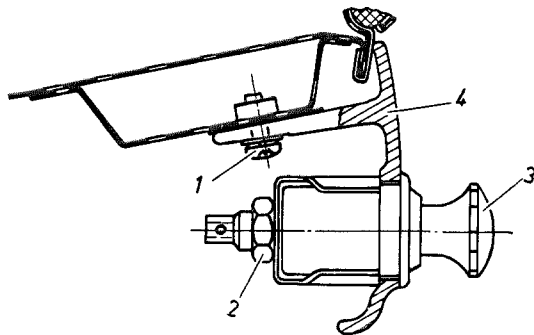

Fig. 68—1/1
3. Disconnect the feed cable for the cigar-lighter, unscrew the fixing nut (2), and take off the ground cable (Fig. 68—1/1). Take off the bracket and remove the cigar-lighter.